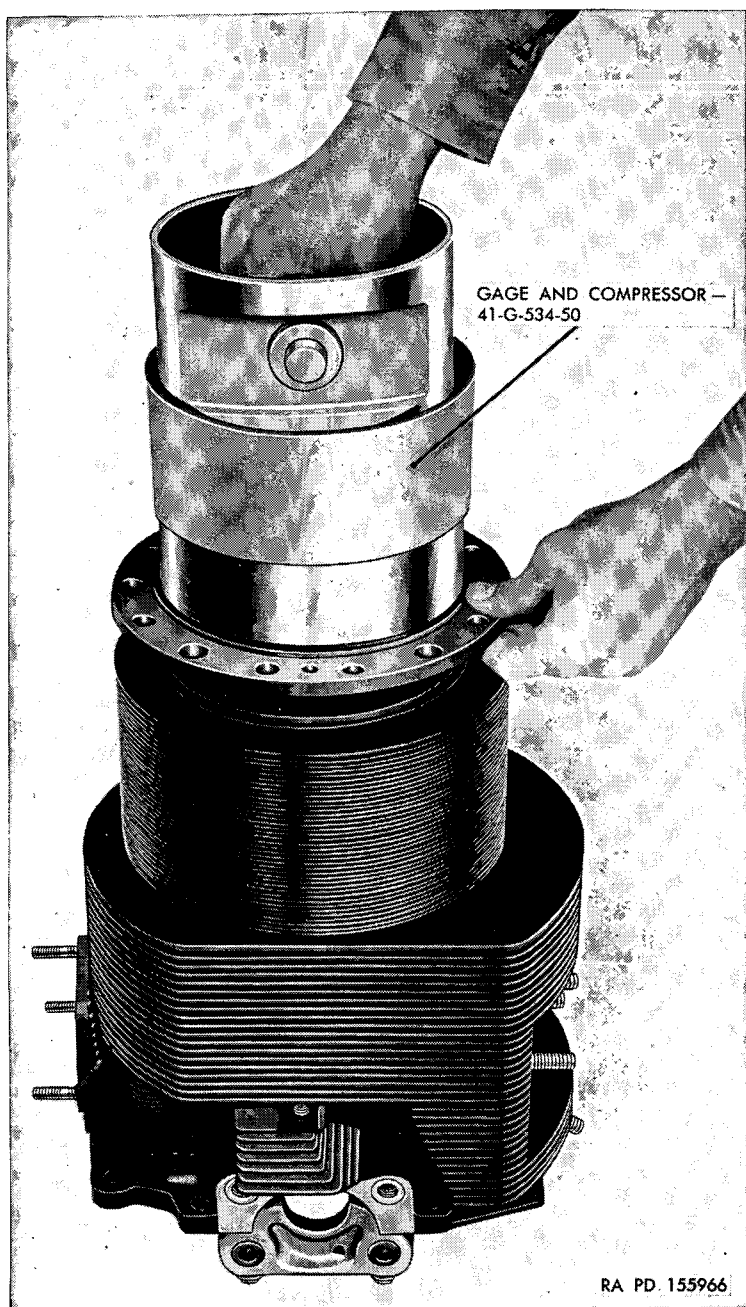

Figure 96. Installing piston and rings in cylinder.
a. *Install Pistons in Cylinders.* Lubricate cylinder bores and piston rings with engine oil at assembly. Insert the piston assembly in large end of piston ring gage and compressor 41-G-534-50 (fig. 96). Guide the assembly into its cylinder until the rings have entered the cylinder bore. Be sure that the piston is assembled in the correct cylinder and is positioned according to marking on the bottom of the piston pin boss. Cylinders are marked on the rocker box contact flange, intake side. Slip off the gage and compressor and leave the piston pin partially inserted in the piston pin boss. Assemble all pistons to their cylinders in this manner. Install new cylinder base "O" ring gaskets (A, fig. 60).